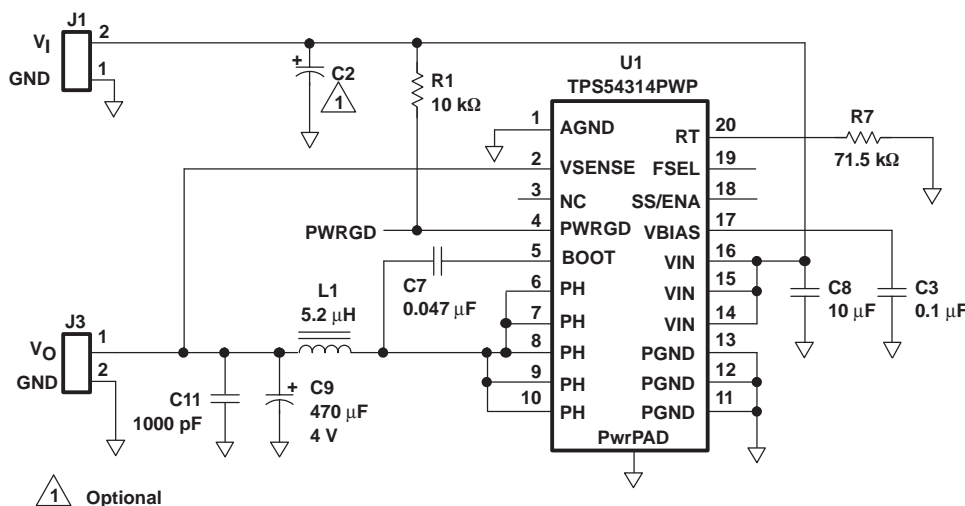

Figure 10. TPS54314 Schematic
(1) Specified by design
(2) Static resistive loads only
(3) Specified by the circuit used in Figure 10
(4) Product Preview
Figure 10 shows the schematic diagram for a typical TPS54314 application. The TPS54314 (U1) can provide up to 3 A of output current at a nominal output voltage of